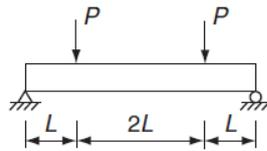

Figure 33 Question 46.
46. The strain energy stored in the beam with flexural rigidity  $EI$  and loaded as shown in Figure 33 is